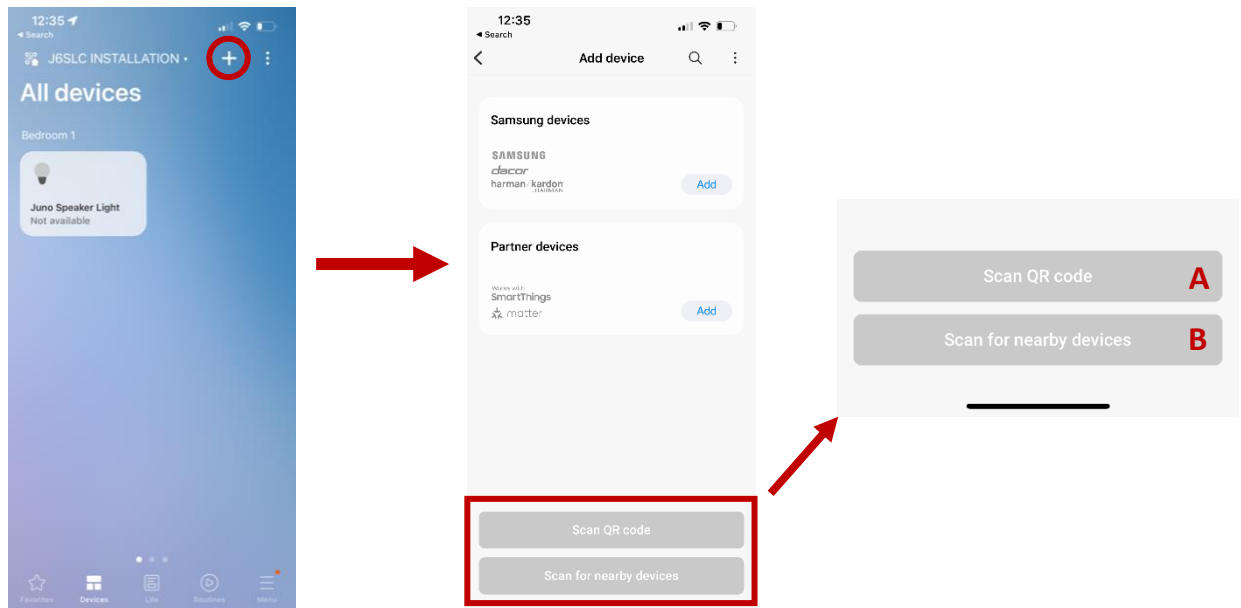

Figure 5
- ii. Click “+” then “Scan for New Devices”, as seen in Figure 5. Follow the prompts to connect each fixture. If fixture is not shown in app, try restarting the app and turning the light on and off at the switch.